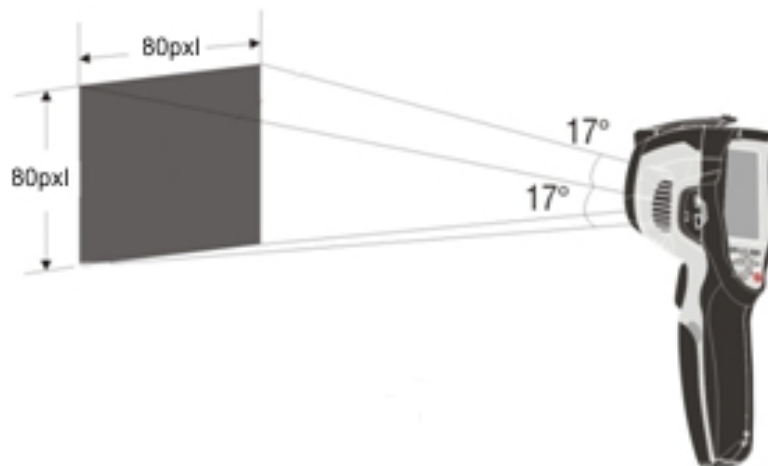

Fig. 30: Representation of the instruments field of view (FOV) for THT45
4. For accurate temperature measurements, make sure the surface of the measured object is always bigger than the surface measurable by the instrument, which is given by the instruments field of view (FOV). The instrument THT45 has a field of view of 17° x 17° and a detection vector of 80x80 (6400) pxl (see Fig. 30).